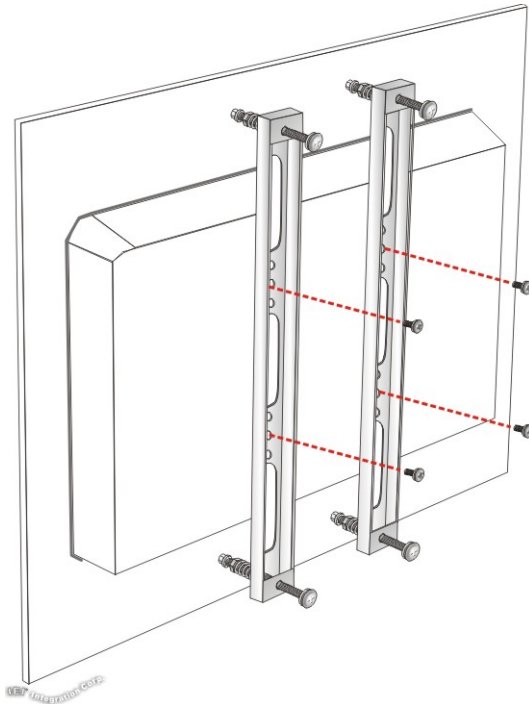

Figure 3-18: Securing Panel Mounting Brackets
Step 7: Secure the two panel mounting brackets to the rear of the panel PC by inserting the four retention screws into the VESA mounting holes and tightening them (Figure 3-18).